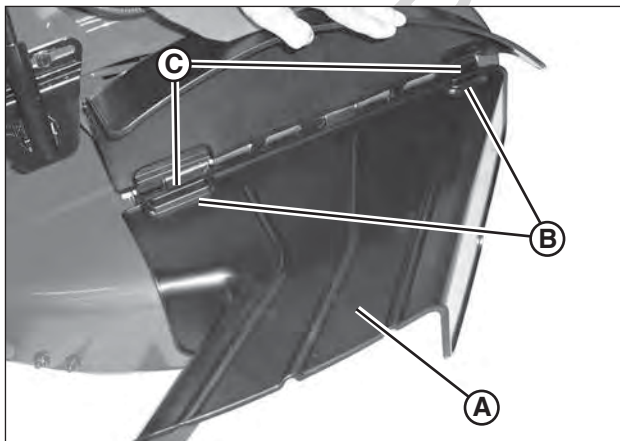

Figure 20: Installing the discharge deflector
3. Install the discharge deflector (A, Figure 20) to the mower deck, making sure that the slots (B) in the deflector fit over the locking tabs (C) on the mulching cover hinge bracket.